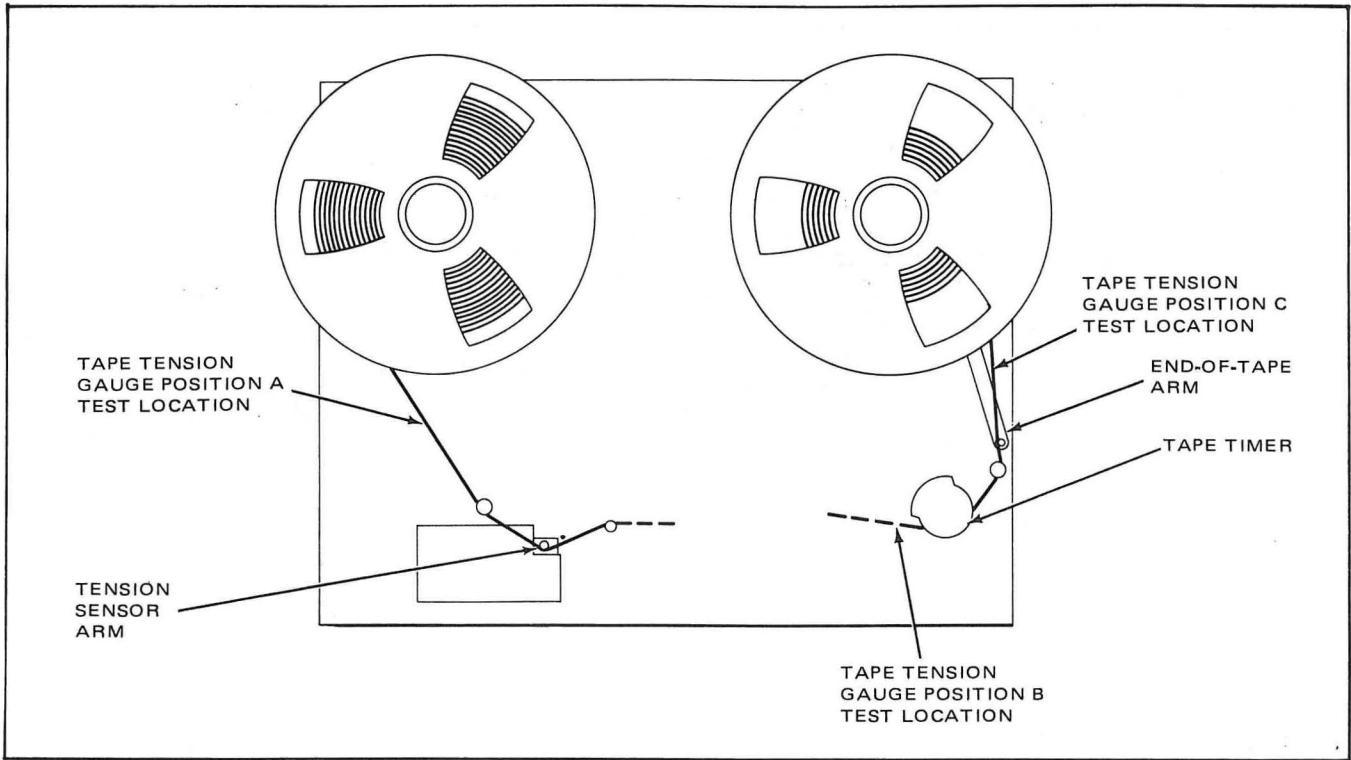

Figure 5-2. Tension Adjustments Using a Tape Tension Gauge
3. Without tape being threaded, secure the end-of-tape arm (Figure 5-2) out of the tape path using pressure-sensitive tape, but do not actuate tape threading latch (if installed).
1. Energize the recorder/reproducer. Hold the tension sensor arm (Figure 5-2) all the way in toward the center of the transport, and adjust SUP GAIN potentiometer R7 until torque on the supply reel just reduces to zero.
- b. Insert tape tension gauge at position A (Figure 5-2). Gauge should read 6.5 ± 0.5 ounce (two-inch tape) or 3.5 ± 0.5 ounce (one-inch tape). Readjust R3 if necessary.